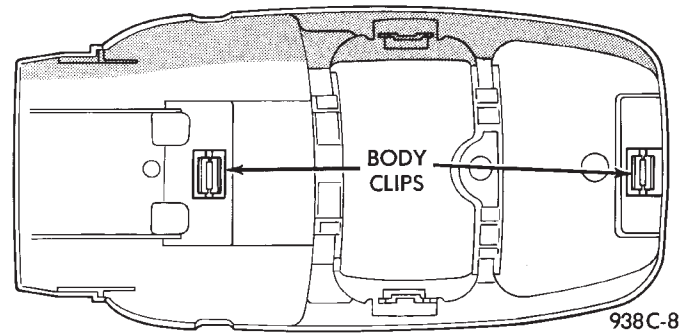
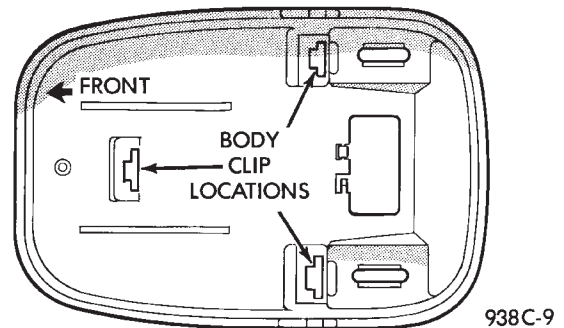

Fig. 10 Full Console Base Removal
Fig. 11 Mini Console Base Removal
- (1) Remove overhead console, refer to above procedures.
- (2) Remove head liner refer to Group 23, Body.
- (3) Using an trim stick, remove console base by disengaging the body clips (Fig. 10) and (Fig. 11).